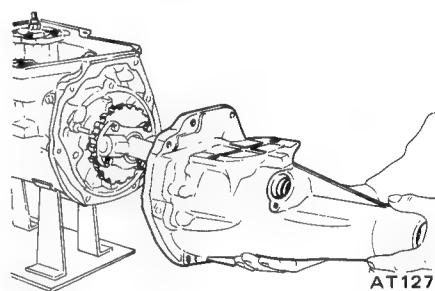

Fig. AT-61 Removing rear extension
15. Remove rear extension loosening securing bolts. See Figure AT-61.